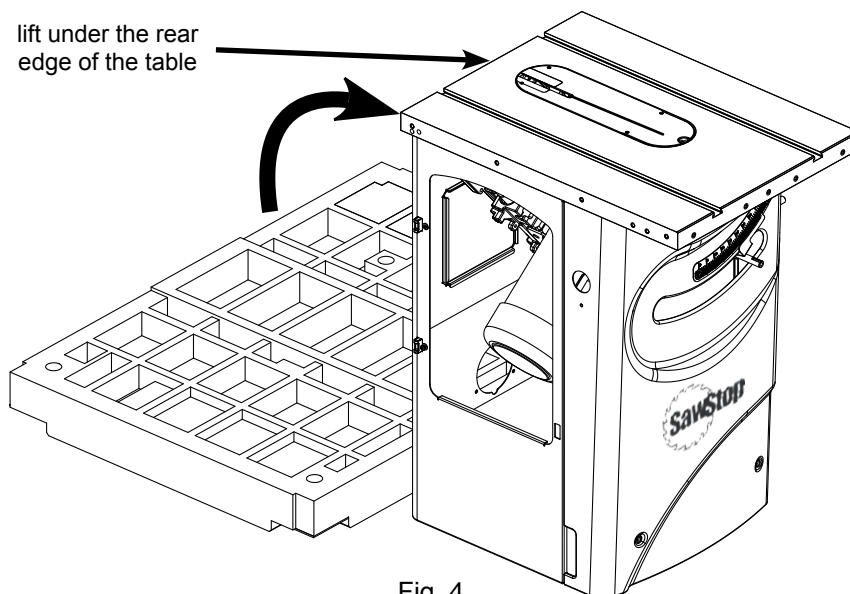

Fig. 4
4. With the help of another person, carefully tip the saw to the upright position by lifting under the rear edge of the cast iron table (see Fig. 4). Lift the saw slowly so that it slides off the Styrofoam and onto the floor without damaging the cabinet.